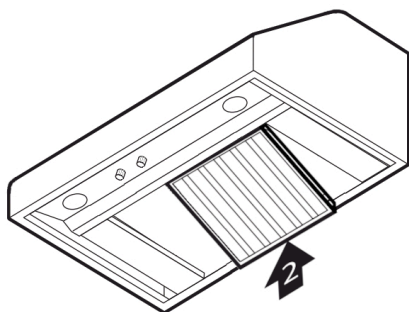

FIGURE 10: INSTALL THE STAINLESS STEEL BAFFLES – PART B
- b. Bring up the rear edge of baffle until it clears the back edge of hood (FIGURE 10).